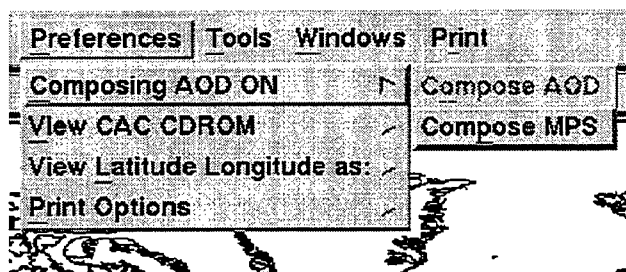

Fig. 26 — Composing preferences
- When switched to *Composing MPS ON* - by clicking on the *Compose MPS* option (Fig. 26) - MMC will compose an image based on the restrictions of MPS images (e.g., image size). DTED data are only available under the *Compose MPS* preference.